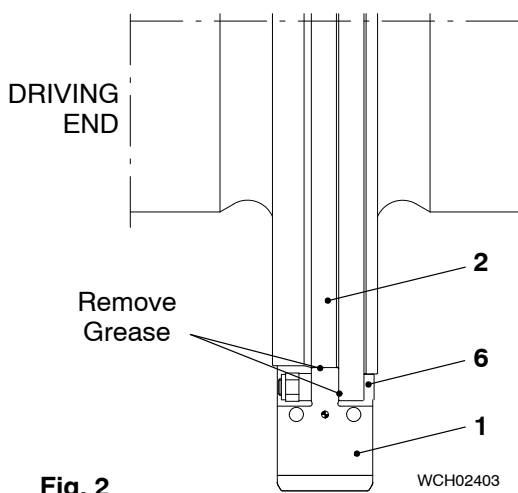

Fig. 2
- b) Make sure that there is a mark on the crankshaft flange (2, Fig. 2). During the assembly procedure, the partition of the crankshaft gear wheel must align with this mark.
- 6) Remove all grease from the applicable area on the crankshaft flange (2, Fig. 2). Make sure that the area is clean and in satisfactory condition.